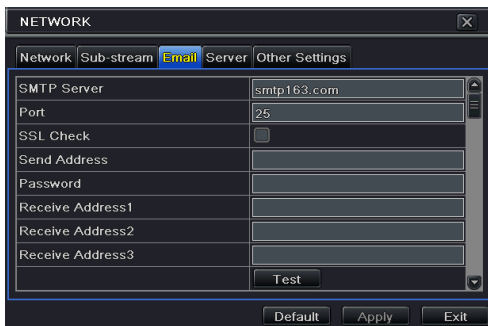

Fig 4-24 Network Configuration-Email
Step 1: Enter into Menu→Setup→ Network→Email interface. Refer to Fig 4-24: